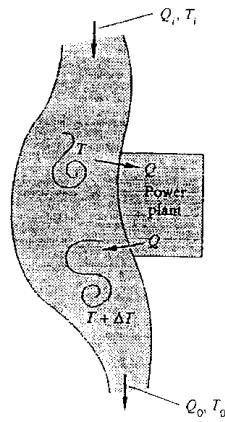

Fig. P3.127
**3.127** A power plant on a river, as in Fig. P3.127, must eliminate 55 MW of waste heat to the river. The river conditions upstream are  $Q_1 = 2.5 \text{ m}^3/\text{s}$  and  $T_1 = 18^\circ\text{C}$ . The river is 45 m wide and 2.7 m deep. If heat losses to the atmosphere and ground are negligible, estimate the downstream river conditions ( $Q_0$ ,  $T_0$ ).